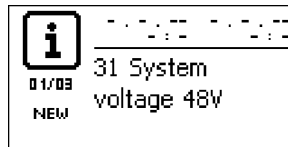

Fig. 6: Event message with the detected system voltage (in the example: 48 V)
3. Switch on the external battery fuse: Insert the fuse insert into the fuse holder (safety fuse) or switch on the DC line circuit breaker. The controller automatically starts operating, displays the company logo after a few seconds and then displays the detected system voltage in an event message (*System voltage xx V*) or *RTC not set* (Fig. 6).